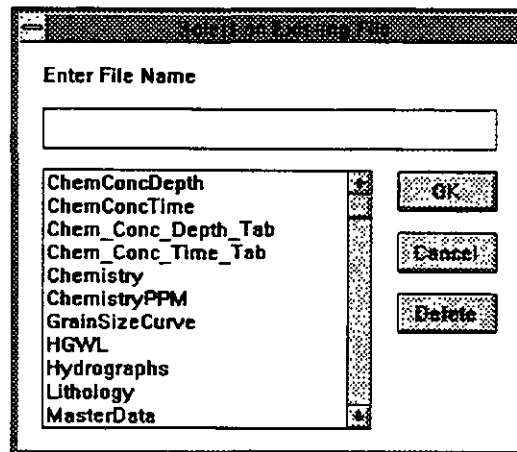

Figure 2-6
4. Select **Old**. The dialogue box as shown in Figure 2-6 is displayed. The box is titled "Select an Existing File" and lists all pre-programmed structure files for all applications.
4. Select **Old**. The dialogue box as shown in Figure 2-6 is displayed. Notice **Select an Existing File** in the title bar.